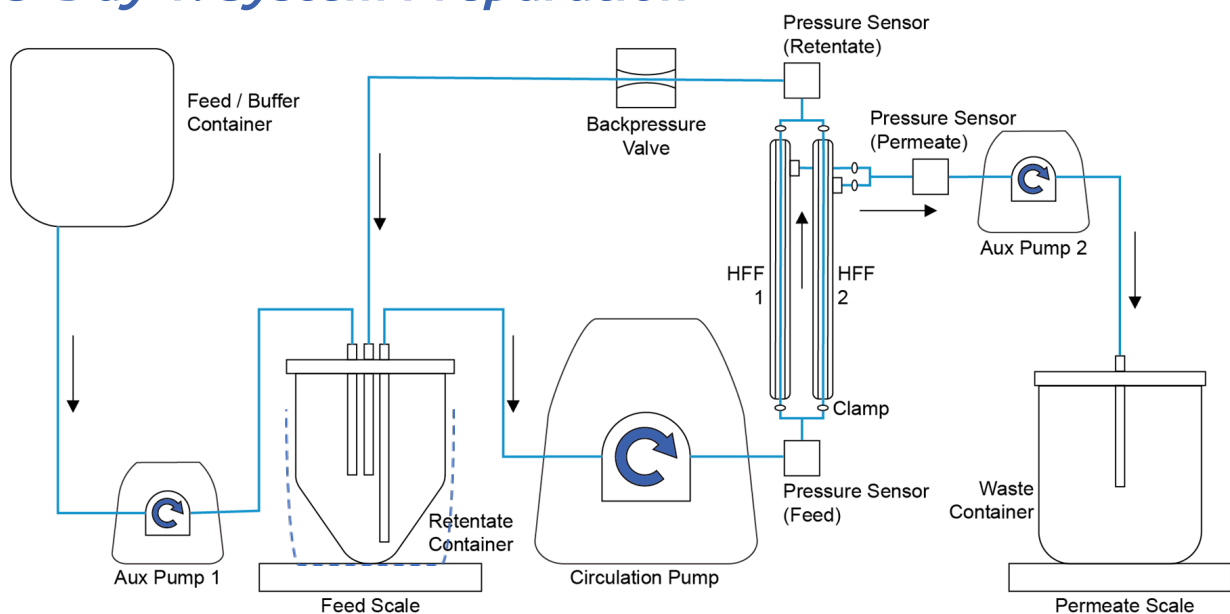

Figure 1 - Diagram of two-stage TFF setup. Blue dotted secondary container for ice used during Elution steps.
1. Set up the equipment as outlined in Figure 1. Clamps are required and one-way valves are recommended at all HFF connection points. Aux pump 2 is required for permeate control mode necessary for microfiltration.